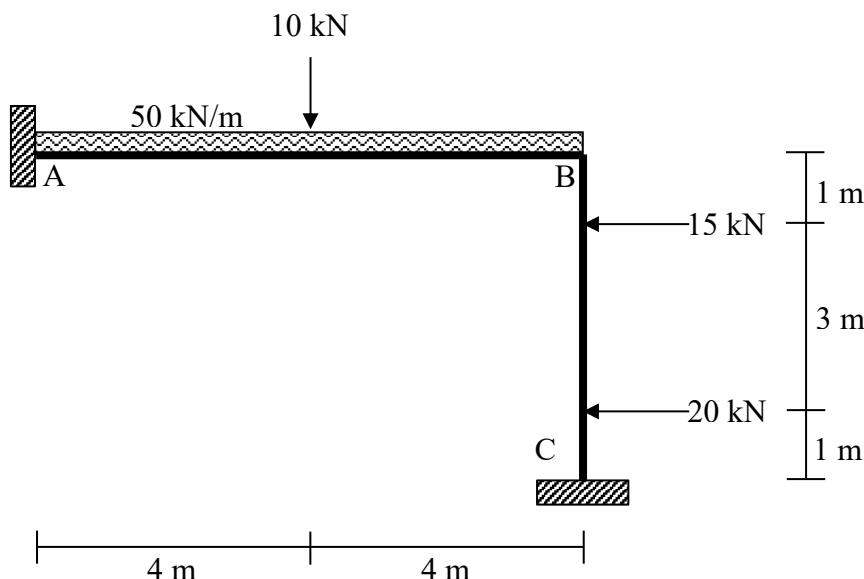

Figure B4 / Rajah B4
A non-sway frame is subjected to uniformly distributed load and point load as shown in Figure B4. The value of EI is constant for each span and value of stiffness factor (K) at joint B is given as follows:
- CLO1 (a) Identify the distribution factor (DF) of point A, B and C in Figure B4.